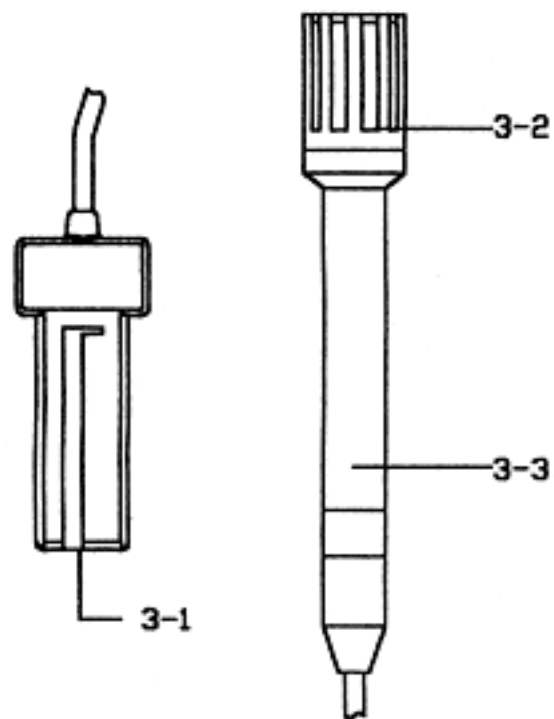

Fig. 1
- 1) Connect the " Humidity Probe plug " (3-1, Fig. 1) with the meter (YK-2001TM).
- 3) Place the " Probe Head " (3-2, Fig. 1) of Humidity probe (YK-200PRH) in the measurement environment.